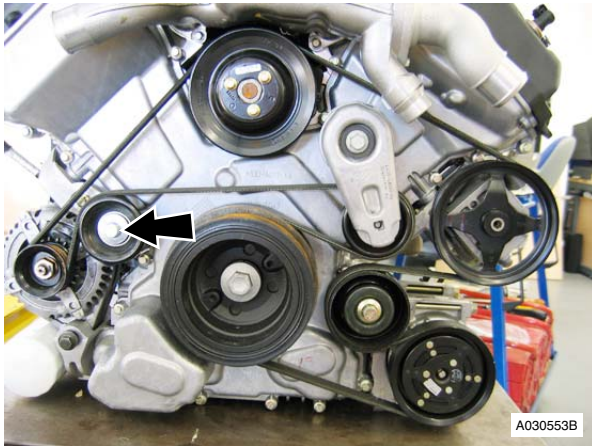

Figure 4
26. Remove the pulley (refer to Figure 4).